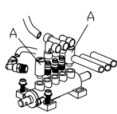

Fig 23
2. Loosen the valve silencers (A) corresponding to the jaw opening/closing pedal and the bead separator pedal; (Fig. 23)
3. Clean the silencers with compressed air; replace them according to the spare parts list if damaged. (Fig. 23)